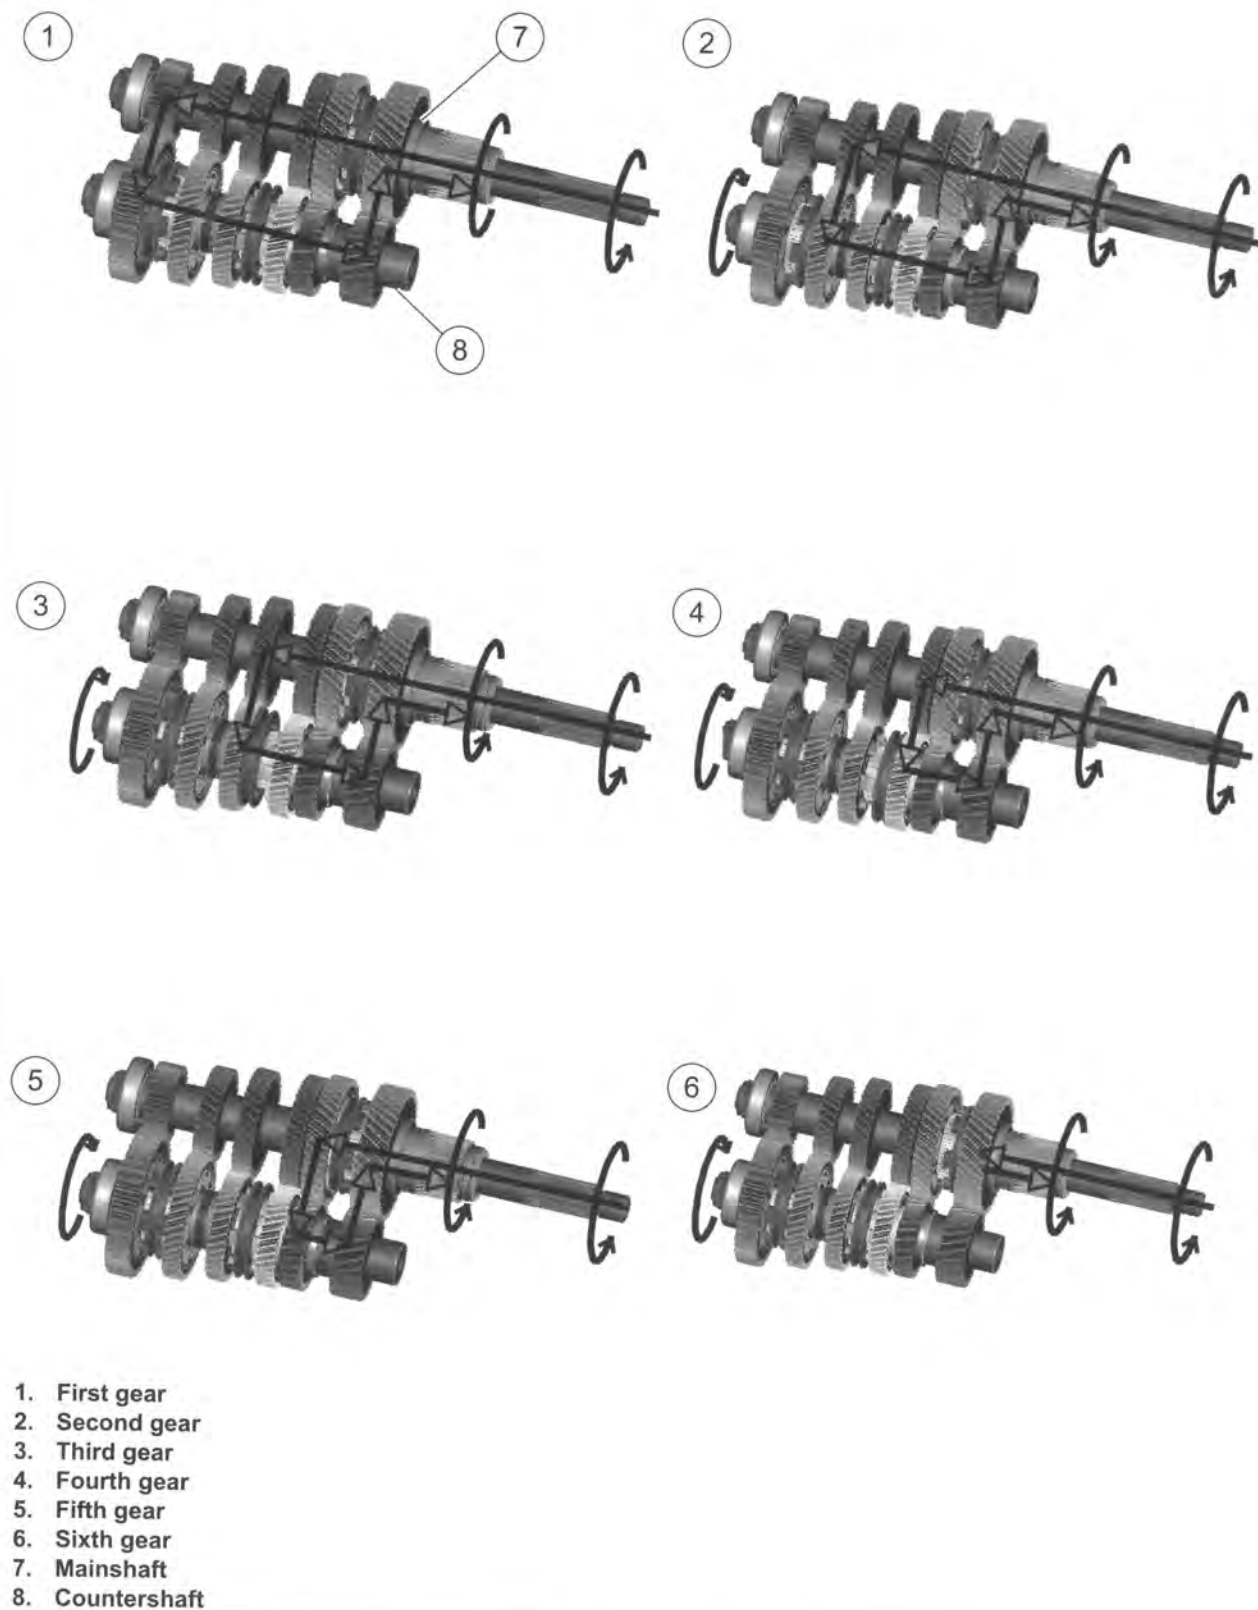

Figure 6-1. Transmission Power Flow
See Figure 6-1. The 6-speed transmission consists of two parallel shafts supporting six gears each. The longer, or mainshaft (7), also supports the clutch and serves as the input shaft. The shorter shaft is called the countershaft (8).